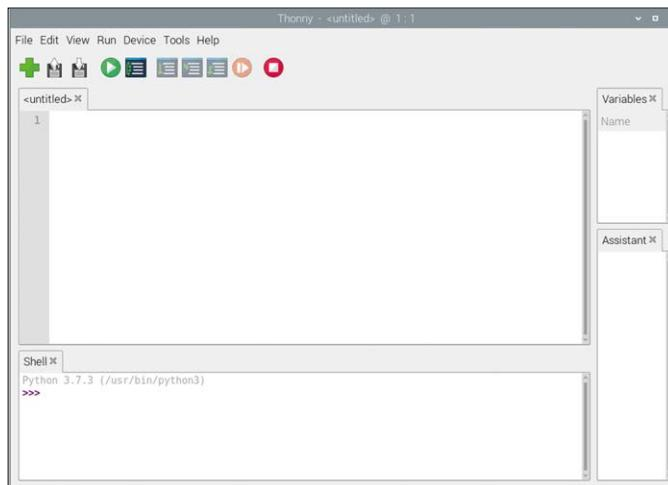

Figure 5.8: Thonny startup screen.
- The Thonny startup screen will be displayed as shown in Figure 5.8. The screen is in two parts — the program is written in the upper part. The lower part is the **shell** where the results of the program are displayed. We can also run Python 3 commands interactively in the lower part of the screen. In the upper part we have the usual menu items found in most GUI type displays. Menu option **File** is used to create a new file, to open an existing file, to close, save, or print a file. Menu option **Edit** is used to undo, cut, paste, select, find-and-replace, and so on. Option **View** is used to enable to view files, heap, notes, stack, variables and so on. Menu option **Run** is used to run or debug a program. Menu option **Device** is used to soft reboot, to upload current script as main script and so on. Menu option **Tools** is used to manage packages, manage plug-ins, to configure Thonny, and so on. Finally, the **Help** menu option is used to get help on using the Thonny.